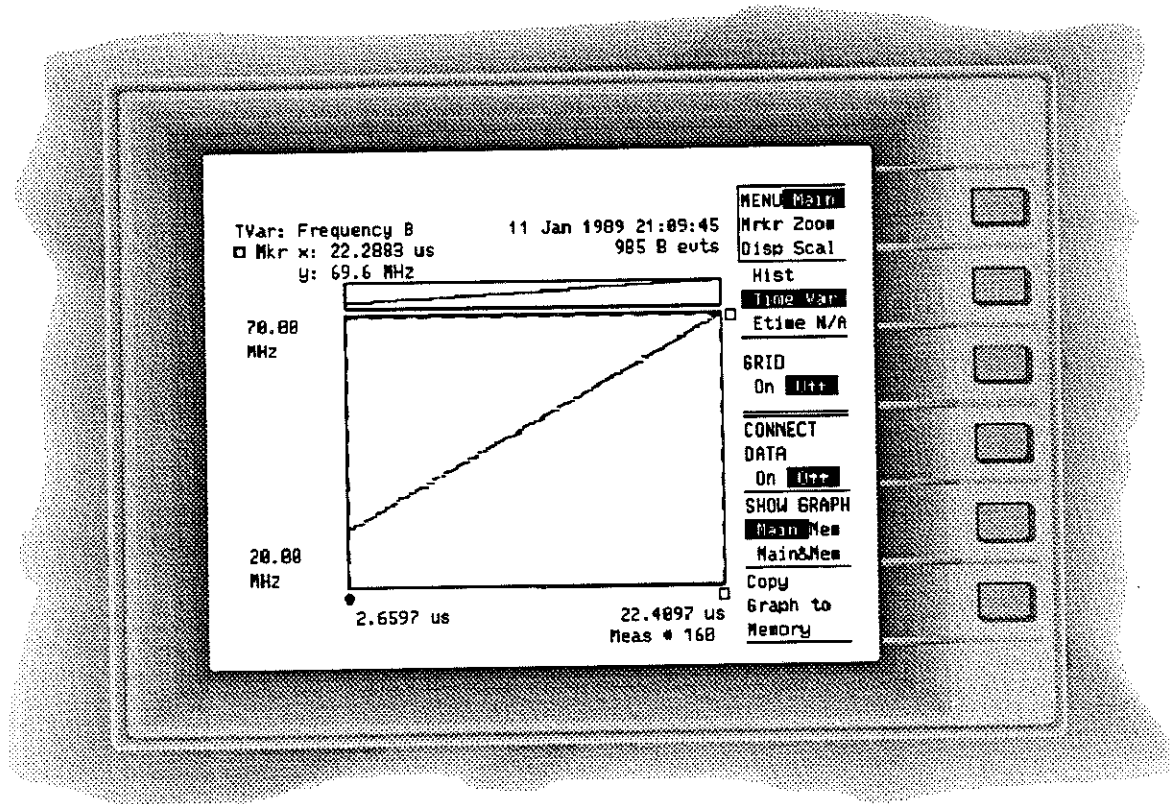
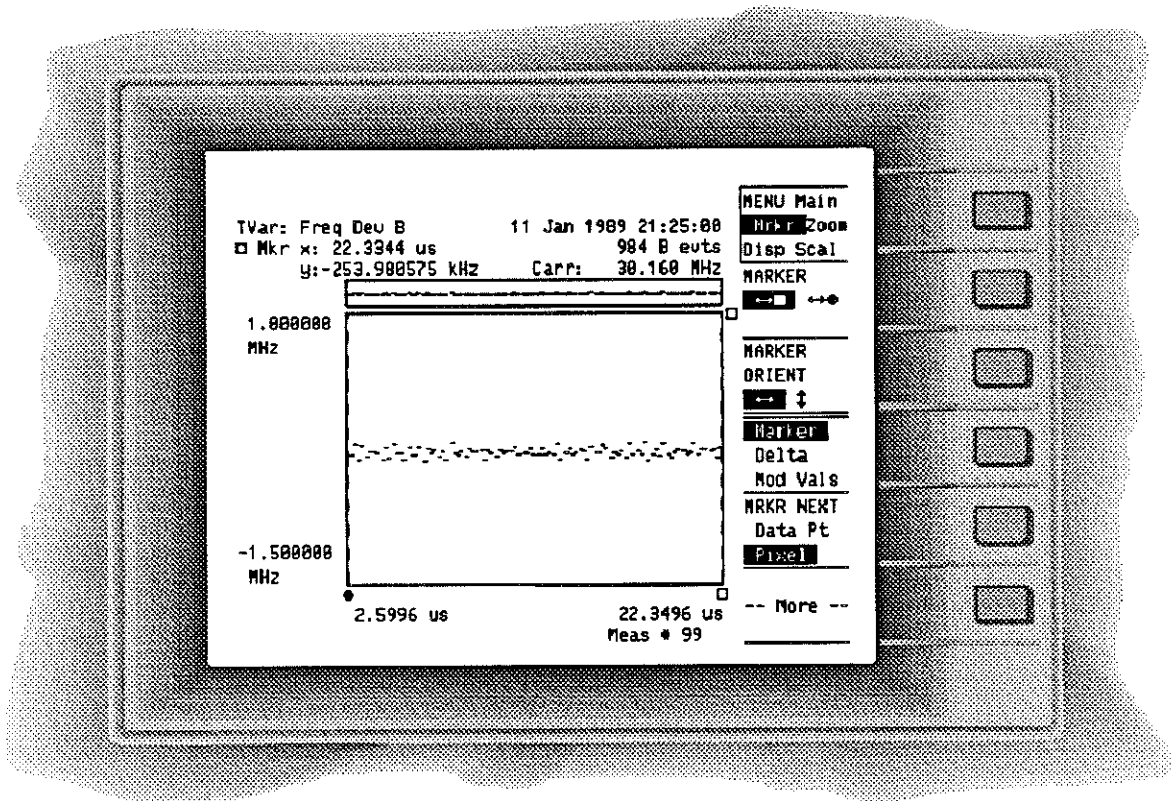

Figure 5-1. Modulation Domain Display
Figure 5-2. Modulation Domain Display
Figure 5-1 shows how this signal appears in the modulation domain.
Observe *Figure 5-1* for a profile of the pulse frequency modulation (chirp).
Figure 5-1 shows how a chirped signal appears in the modulation domain while *Figure 5-2* shows the curve-fit frequency deviation from linearity.
8. Observe the display for a curve fit of the frequency modulation (chirp) linearity as shown in *Figure 5-2*.